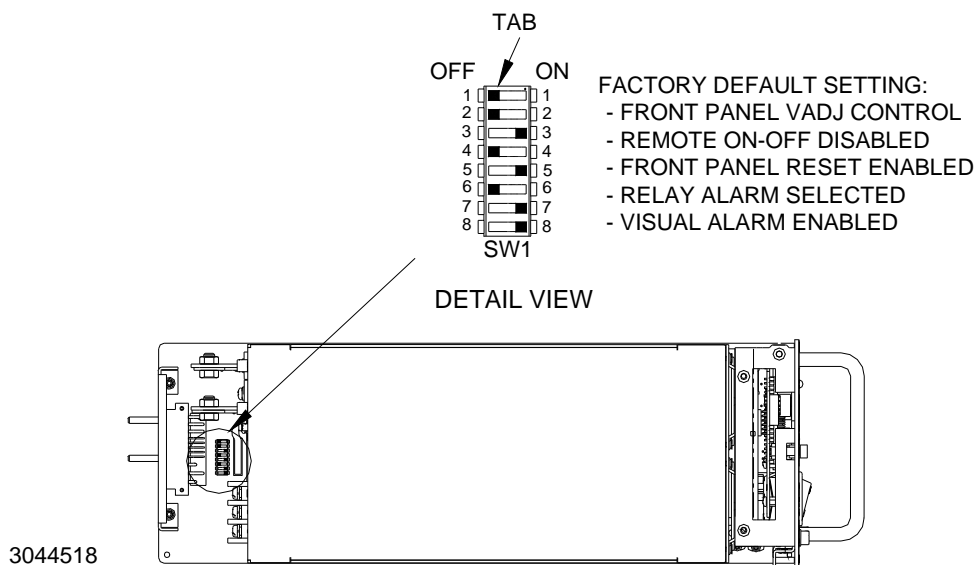
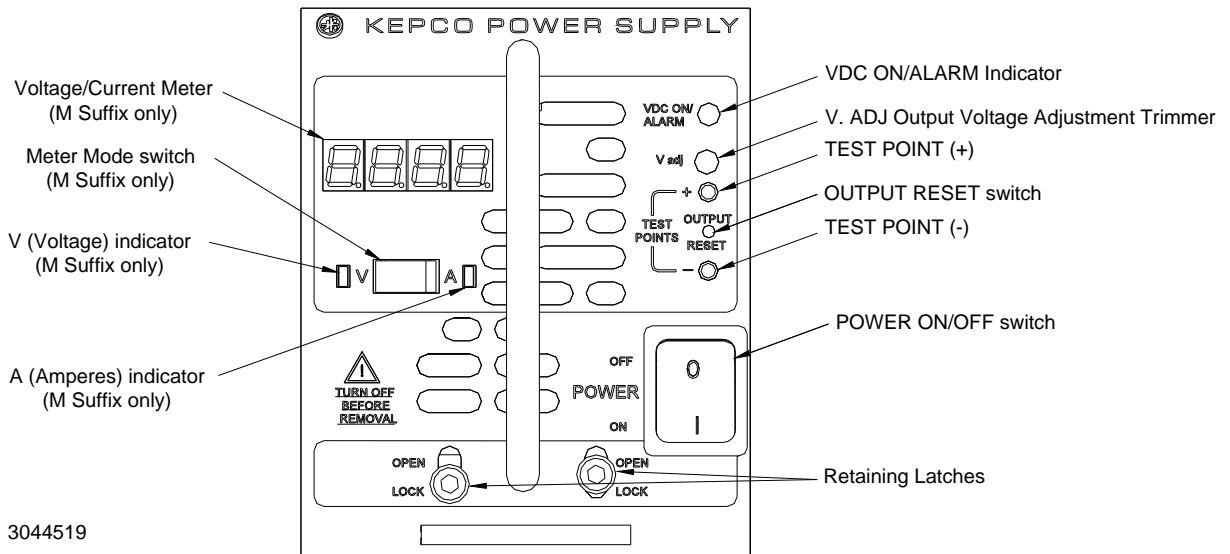
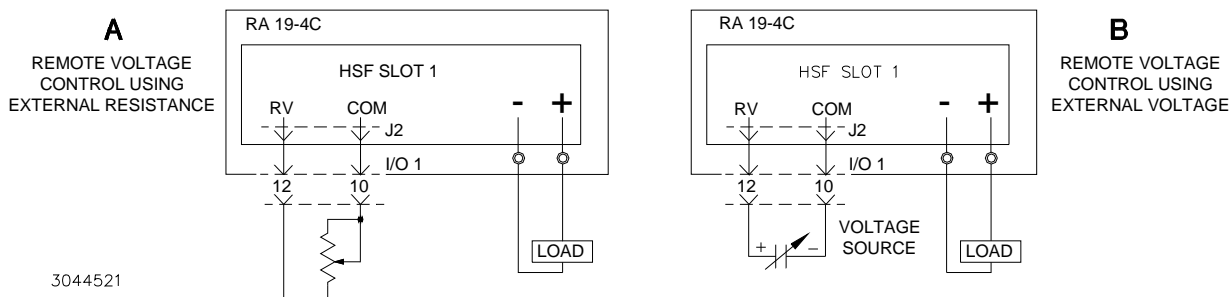

FIGURE 5. DIP SWITCH CONFIGURATION
FIGURE 6. FRONT PANEL CONTROLS, INDICATORS AND TEST POINTS
FIGURE 7. CONNECTIONS FOR REMOTE VOLTAGE CONTROL
The power supply incorporates one DIP switch, SW1 (see Figure 5), which must be configured before the unit is installed in the rack adapter. The DIP switches control the following parameters:
Output voltage can be manually adjusted with the voltage adjustment control, V_{adj} (see Figure 6 for location) when DIP switch SW1 position 3 is set to ON and position 4 is set to OFF shown in Figure 5 (factory default) To adjust voltage, first place the unit under an operating load. Then monitor the (+) and (-) test points on the front panel with a precision voltmeter and turn the voltage control to the desired operating value.
For remote voltage control, set position 2 of the DIP switch to ON and position 3 to OFF (see Figure 5 for switch location). This removes control from the front panel V_{adj} control and allows the output voltage to be adjusted by either an external trimmer pot (resistance) or by an external variable voltage source connected across the rack adapter I/O connector pin 12 (RV, Remote Voltage) and pin 10 (COM, Common) as shown in Figure 7. At the rack adapter I/O connector use a shielded wire 6.6 feet (2M) maximum in length, for connection of RV (pin 12), and COM (pin 10) to the trimmer control or external voltage source.
NOTE: If remote voltage control is not implemented, the factory default for DIP switch positions 2 and 3 must be restored (Figure 5).
Remote ON-OFF is enabled by setting DIP switch position 4 to ON and position 5 to OFF. The +RC signal, referenced to COM (at the rack adapter I/O connector, pins 15 and 10, respectively) then turn the unit on or off. These pins accept a logic level (3.3 to 5V "high" and 0.0 to 0.4V "low"), or a contact closure. When +RC to COM is open using a high level logic signal, the power supply output is cut OFF. When +RC is shorted to COM, the output returns to within specifications. Positions 4 and 5 of the DIP switch must be restored to the factory default setting (Figure 5) if remote ON-OFF is not used. The +RC pin is not isolated from the negative DC output pin.
The front panel VDC ON/ALARM indicator can be configured to light red if a) the respective power supply output voltage is lost, b) the unit is reset (local or remotely) or c) if the POWER switch is set to OFF (indicator lights red for 30 seconds after setting to OFF). This feature is enabled when DIP switch 1, position 8 set to ON (factory default, see Figure 5 for switch location).
HSF-A 1500W series power supplies are provided with (2) retention latches located at each side of the bottom edge of the front panel (see Figure 6). These latches work in conjunction with the RA 19-4C rack adapters to prevent unauthorized or inadvertent module extraction from an operating power system. The latch is engaged by loosening the cap-head screw approximately 1/2 turn CCW (use 5/32” hex key) and sliding the latch down to the bottom of the slot, then retightening the cap-head screw CW until snug. DO NOT OVERTIGHTEN! To release, follow the same procedure, except lift the latch to the top of the slot. Be sure to move the latch completely up or down to ensure full engagement and disengagement of the latching mechanism. When the HSF-A power supply is not installed in its plug-in rack adapter, it is recommended that the latch be secured in the open (up) position to prevent damage.